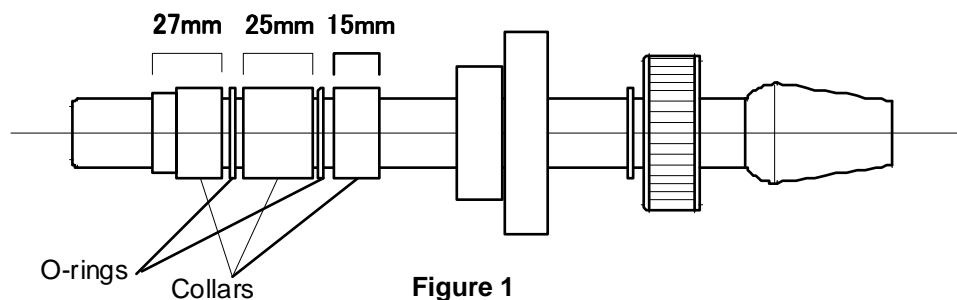

Figure 1
1. Before installing the steam duct, make sure that the required O-rings are in place, inside the duct opening. If not, set them in their correct place on the glass steam duct as in figure 1 below.
● If inner o-rings and collars come out when installing or removing the steam duct, refer to figure 1 below to replace them.